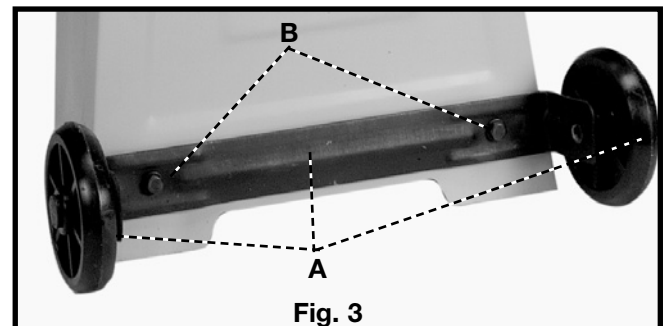

Fig. 3
Assemble the wheel assembly (A) Fig. 3, to the bottom of the left leg. Align the holes in the wheel assembly with the holes in the left leg. Place a 1/4" flat washer onto a 1/4-20x1/2" hex head screw, insert the screw through the holes (B) in the wheel assembly and the hole in the left leg, place a 1/4" flat washer onto the screw, thread a 1/4-20 hex nut onto the screw, and tighten securely. Repeat this process for the remaining hole.